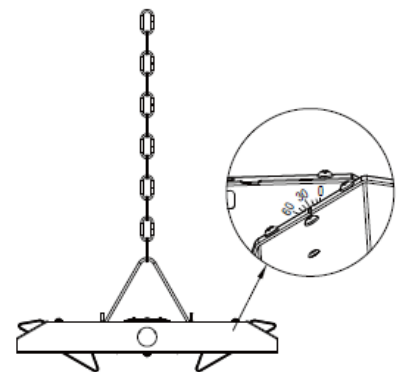

Figure 2
- Step 5. The panels can be rotated, and the maximum angle of outward rotation is 135 degrees. (Figure 2)